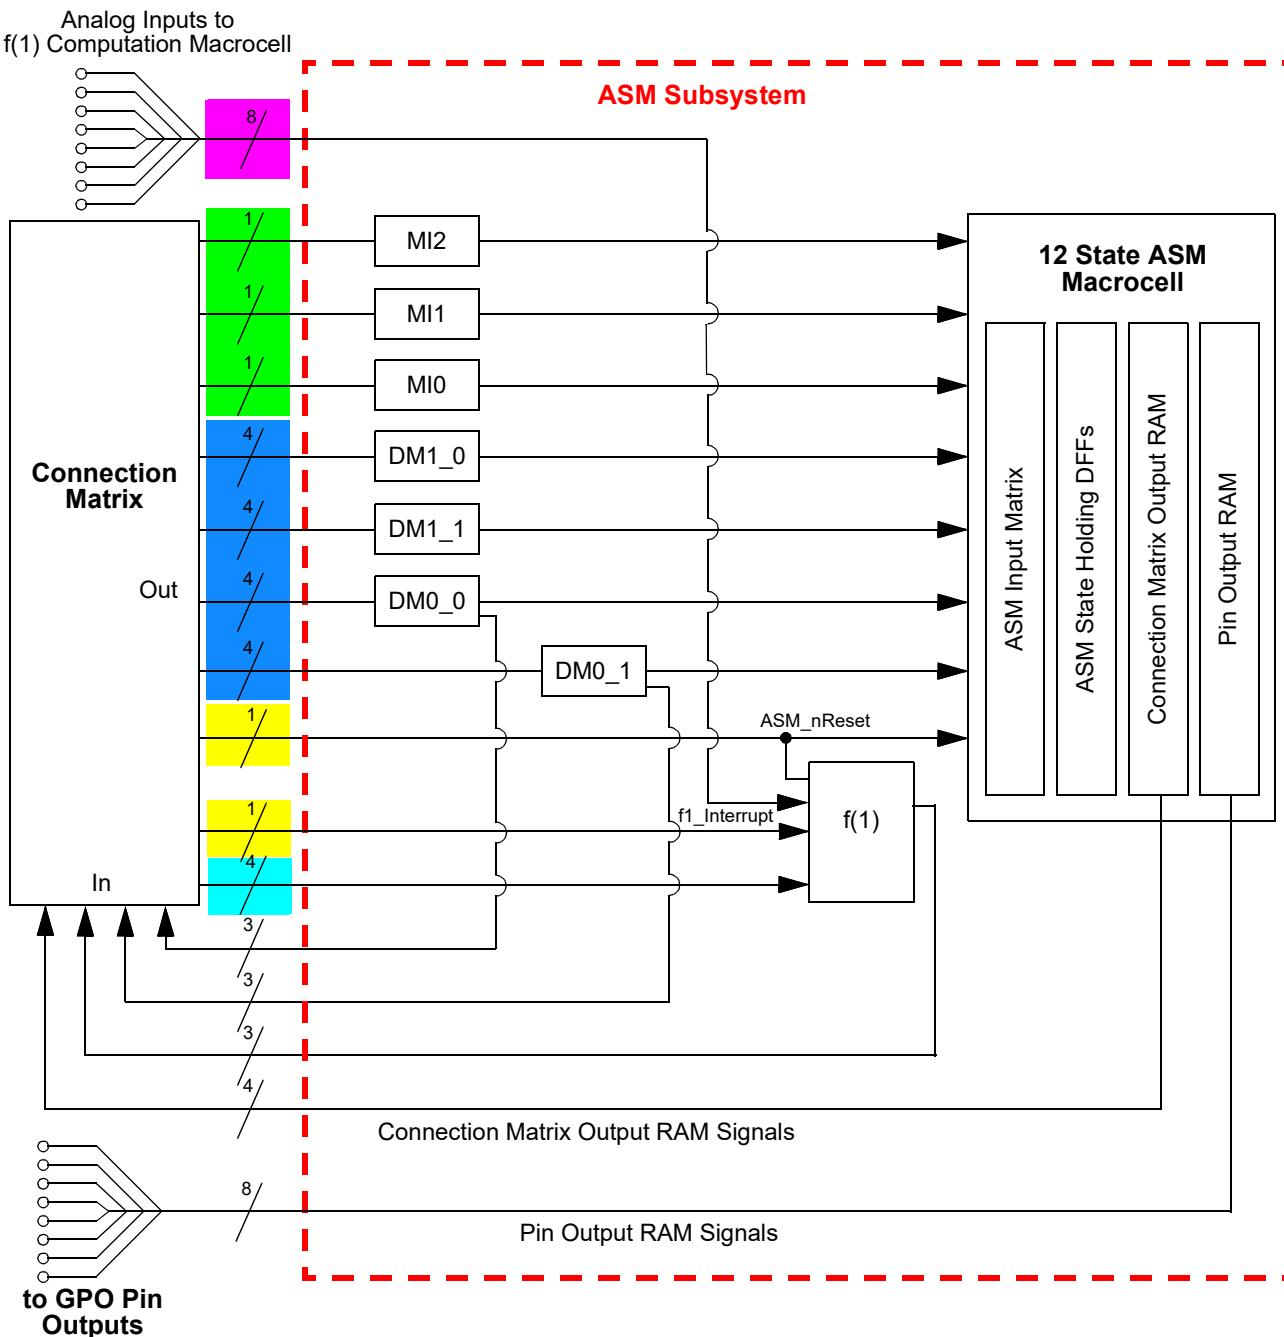
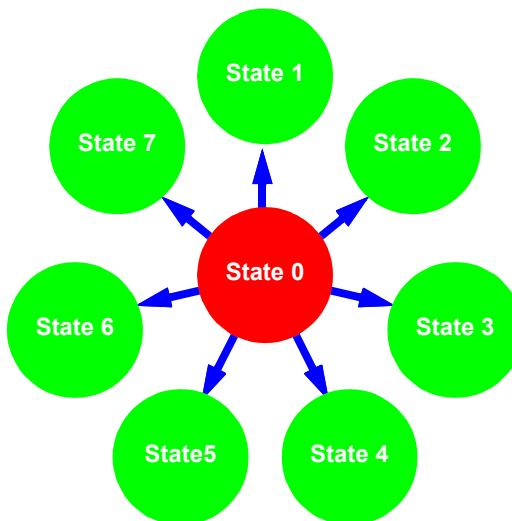
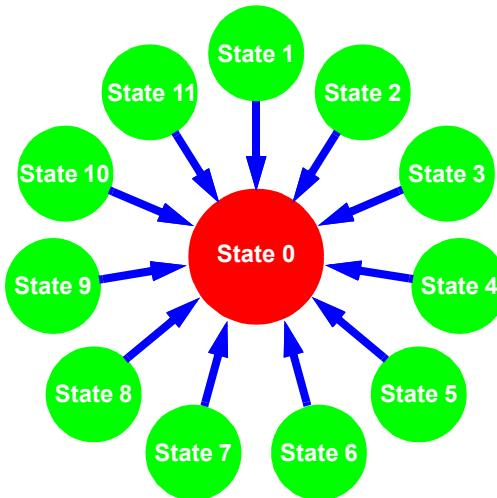

Figure 98: ASM Subsystem Input Signals
Figure 99: Maximum 7 State Transitions out of a Given State
Figure 100: Maximum 11 State Transitions into Given State
The ASM Subsystem has a total of 25 digital input signal lines, as shown in Figure 98, which all come from the Connection Matrix outputs. Of these 25 input signals, 3 are user selectable inputs going directly from the Connection Matrix to the three Matrix Interface (MI) macrocells. There are a total of 16 input signals that go to the DM_x_x macrocell, four per macrocell. There is 1 ASM_nReset input that is for driving a state transition in both the ASM macrocell and the $f(1)$ Computation Macrocell to an Initial/Reset state. There are 4 digital input signals coming from the Connection Matrix to the $f(1)$ Computation Macrocell. There is also 1 dedicated Interrupt input to the $f(1)$ Computation Macrocell that will halt any active operations and transfer control back to the ASM macrocell. Each of the 25 input signals are level sensitive.
There are a total of 16 digital input signals to the ASM Subsystem which are inputs directly to the DM macrocells. These 16 signals are shown in Figure 98, highlighted in blue. While there are 4 input signals coming from the Connection Matrix and going to each DM_x_x macrocell, there is only 1 output signal from each of these macrocells, which goes directly to the ASM macrocell. There are also 3 signal lines that come directly from the Connection Matrix and go to the three Matrix Interface (MI) macrocells which can drive state transitions. These signals are shown in Figure 98, highlighted in green. This sets an upper bound on the number of transitions that the user can select going *out of* a particular state to be 7, shown in Figure 99. There is no limitation on the number of unique transitions that can be supported going into a particular state, the user can select to have transitions going from a state to all other states, shown in Figure 100. Each of these input signals to the ASM macrocell is level sensitive, and active high. A high level input will trigger a state transition.
There are a total of 8 analog inputs coming from various pins which can be muxed into the positive input for the f(1) Analog Comparator inside the f(1) Computation Macrocell. These 8 signals are shown in Figure 98, highlighted in pink. The f(1) Analog Comparator can be re-programmed for analog input source and negative input reference settings. The user selections for both positive input signal and negative reference are included as part of the information stored in the f(1) Command Register Table. This allows the user to make different analog measurements that are state dependent in their analog sources and reference settings.
The ASM macrocell also has a ASM_nReset input. This input to the ASM macrocell is level sensitive and active low. This signal is shown in Figure 98, highlighted in yellow. An active signal on this input will drive an immediate state transition to the user-defined Initial/Reset state. The user can choose which state within the ASM Editor inside GPAK Designer will be the reset state.
There is also 1 dedicated f1_Interrupt input to the f(1) Computation Macrocell that will halt any active operations and transfer control back to the ASM macrocell. This signal is shown in Figure 98, also highlighted in yellow.